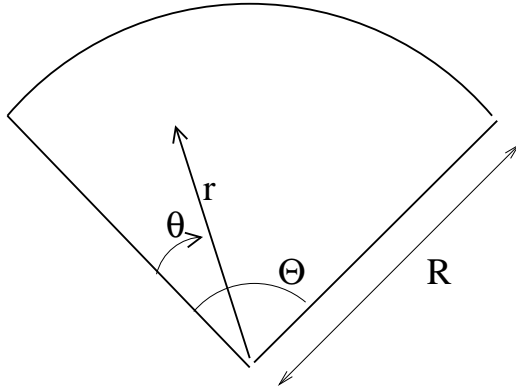

Figure 9: Annular sleeve.
7. Consider an annular channel described in a cylindrical  $(r, \theta, z)$  coordinate system. The cross section of the channel is shown in figure 9, and the  $z$  direction is perpendicular to the plane of the cross section. The channel is bounded by solid walls at  $r = 0$  and  $r = R$ , and at  $\theta = 0$  and  $\theta = \Theta$ . The wall at  $r = R$  is moving in the  $z$  direction with a velocity  $U$ , while those at  $\theta = 0$  and  $\theta = \Theta$  are stationary. The flow is a unidirectional, fully developed, and steady flow with velocity only in the  $z$  direction. The equation for the velocity field in the  $z$  direction is,